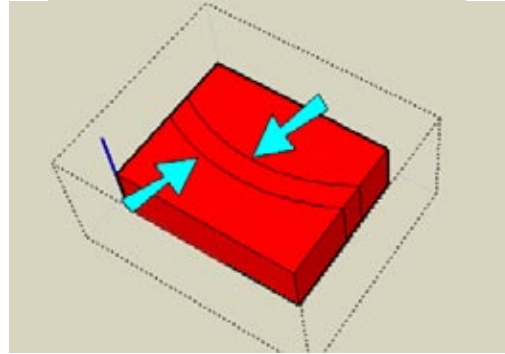

Figure 3-37
4. Select the whole box and run Intersect with Model. This creates the intersection edges where the box meets the building, even though the building is currently hidden (Figure 3-37).